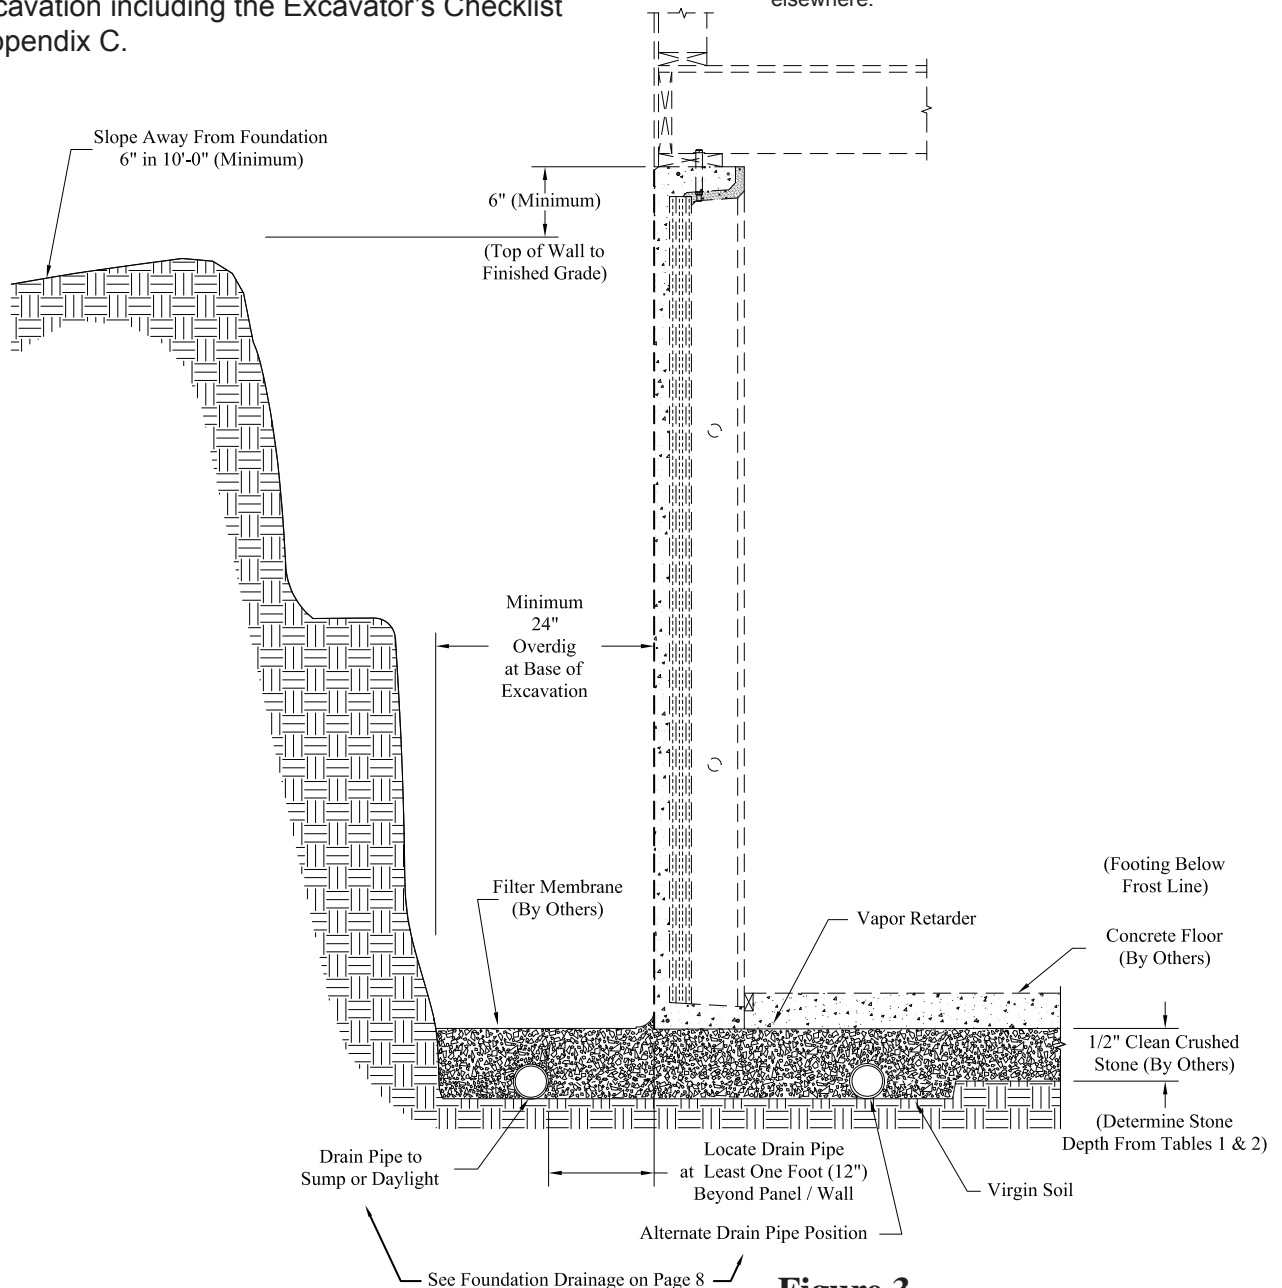

Figure 3
- See Figure 3, below, for the typical basement excavation detail with full backfill.